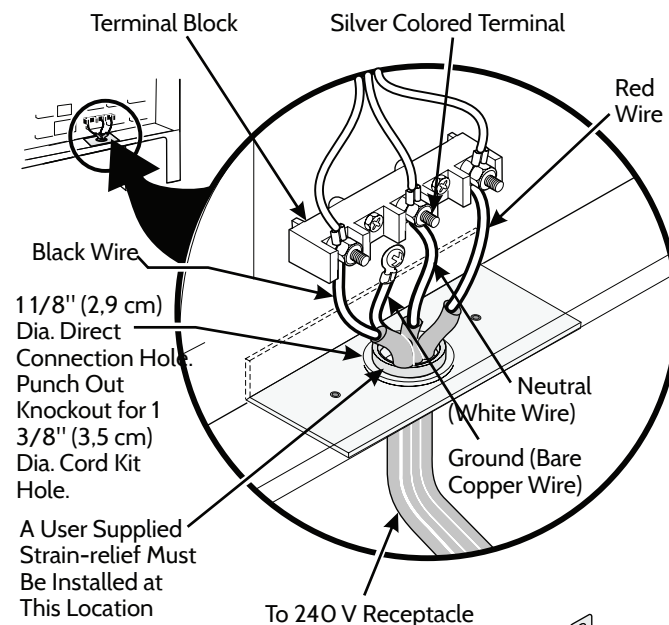

Figure 9
Where local codes does NOT permit connection of the frame grounding conductor to the neutral wire of the copper power supply cord (see Figure 9):
4. Connect the ground wire (green) of the copper power supply cord to the frame of the appliance with the ground screw, using the hole in the frame where the ground strap was removed (see Figure 9).